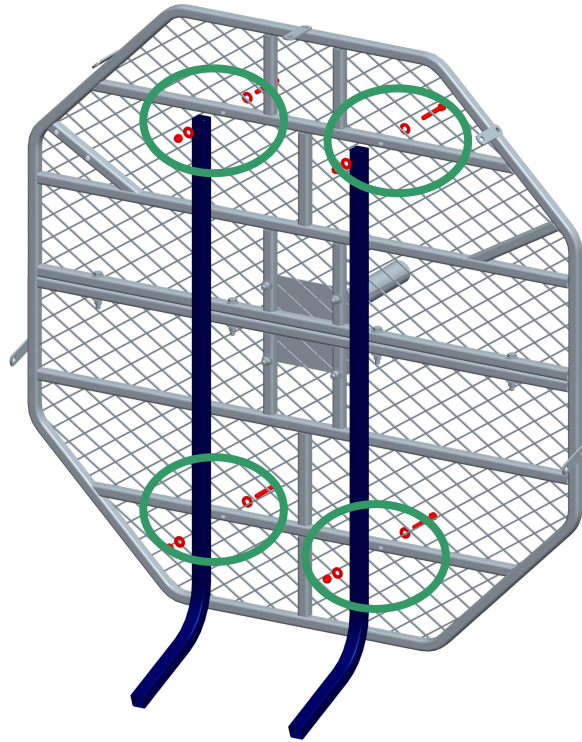

Figure 3
Locate two Ladder Supports (#4). Install the Ladder Supports (#4) onto the assembled Platform using four (4) M8x60 Bolts, eight (8) Steel Washers and four (4) Locknuts as shown in Figure 3.